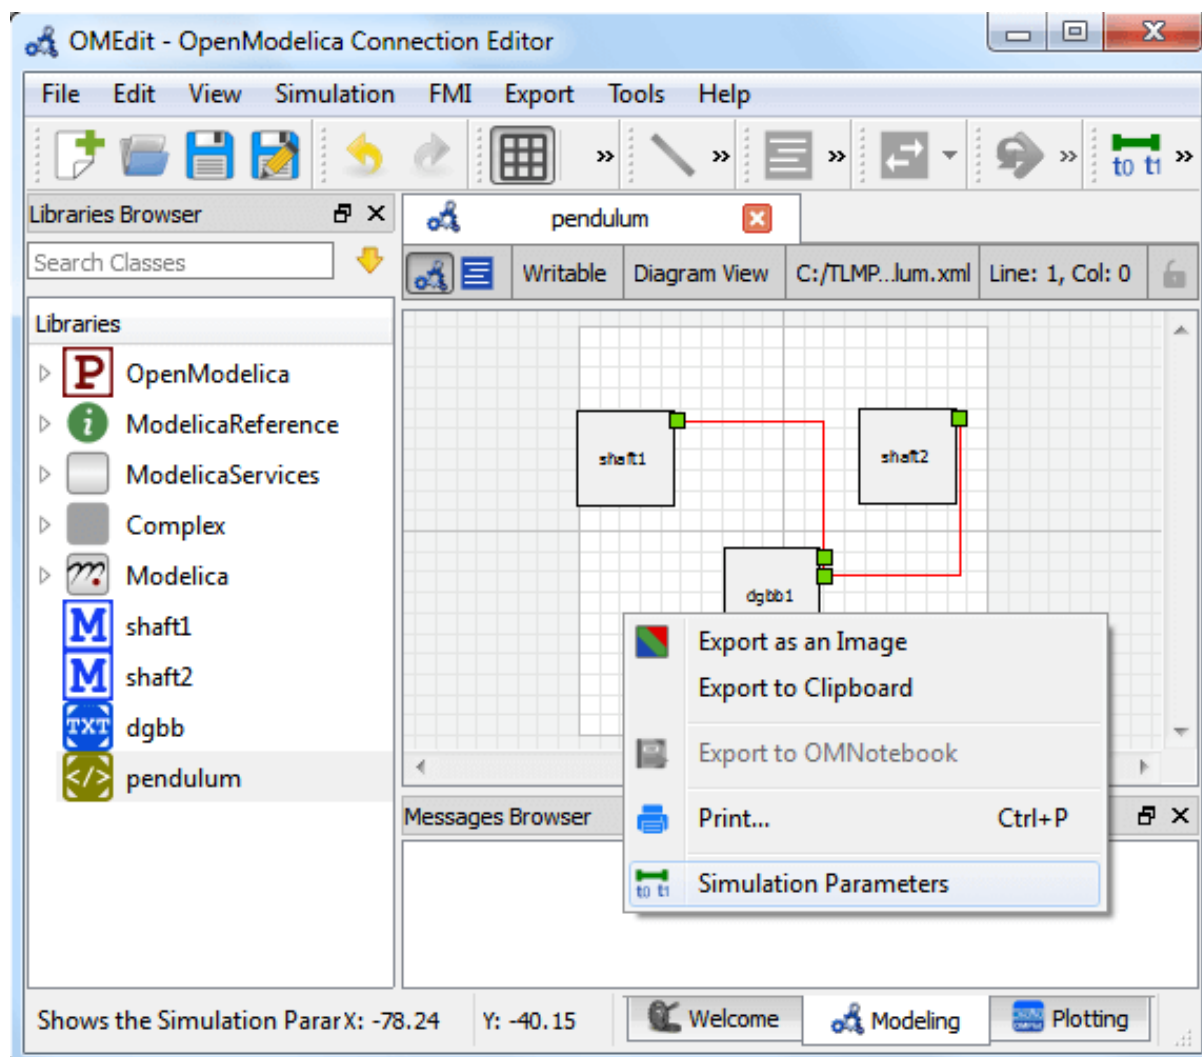

Figure 8.15: Changing Co-Simulation Parameters from the Popup Menu.
- Right click an empty location in the Diagram View of the composite model and choose **Simulation Parameters** from the popup menu (see Figure 8.15)